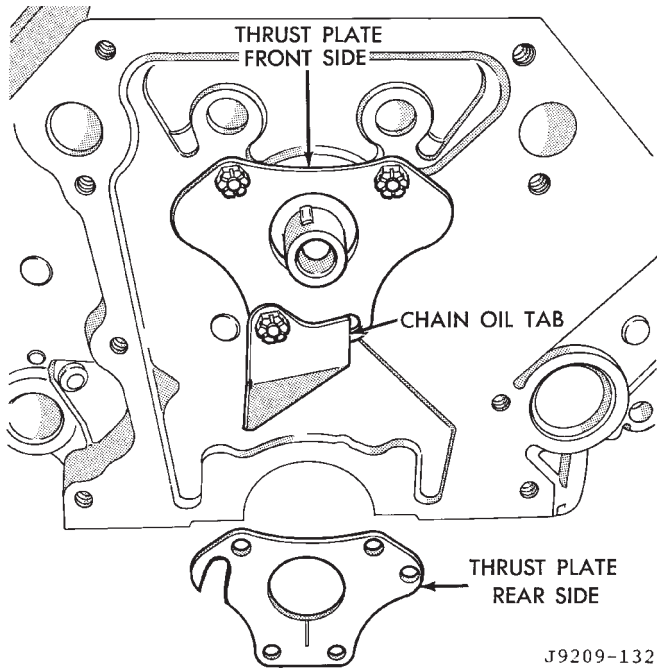

Fig. 10 Timing Chain Oil Tab Installation
- (1) Remove intake manifold.
- (2) Remove cylinder head covers.
- (3) Remove timing case cover and timing chain.
- (4) Remove rocker arms.
- (5) Remove push rods and tappets. Identify each part so it can be installed in its original location.
- (6) Remove distributor and lift out the oil pump and distributor drive shaft.
- (7) Remove camshaft thrust plate; note location of oil tab (Fig. 10).
- (8) Install a long bolt into front of camshaft to facilitate removal of the camshaft. Remove camshaft, being careful not to damage cam bearings with the cam lobes.